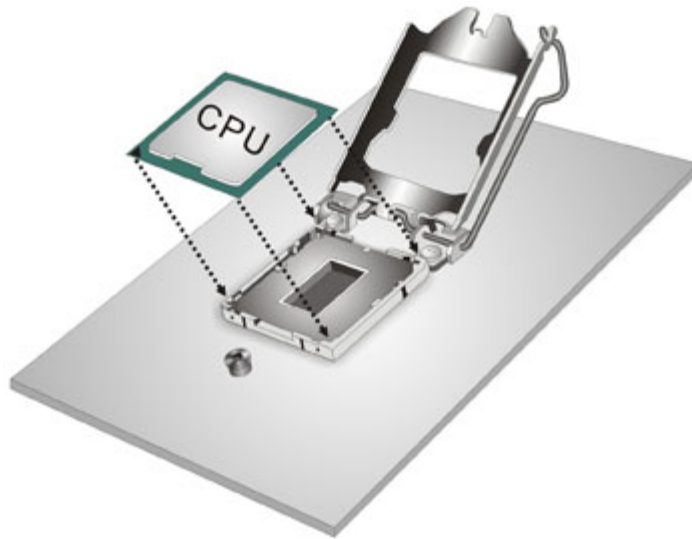

Figure 4-3: Insert the Socket LGA1150 CPU
- Step 7: Insert the CPU.** Gently insert the CPU into the socket. If the CPU pins are properly aligned, the CPU should slide into the CPU socket smoothly. See **Figure 4-3**.